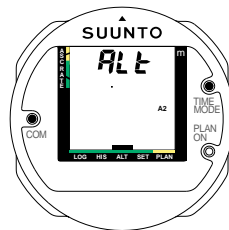

Fig. 4.10 PERSONAL/ALTITUDE ADJUSTMENT SETTING, STEP 4
4. Connect the TIME/MODE and COM contacts to confirm this new personal/altitude adjustment mode (Fig. 4.10). The blinking will stop and the other mode indicators will disappear.